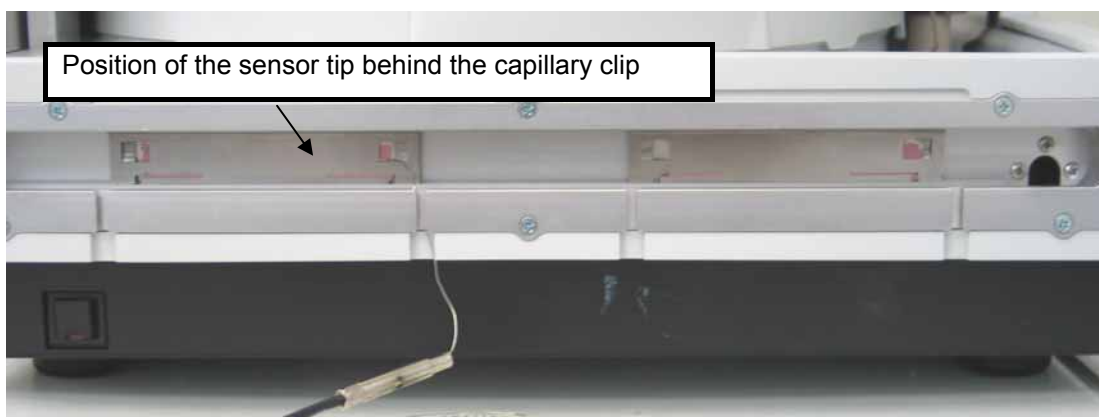

Figure 4: ACC-3000(T) – Position of the temperature sensor
- When qualifying the Dionex ACC-3000(T) column compartment, install the temperature sensor as shown in Figure 4. Be sure to use the type K temperature sensor (and not the sensor from the Column Thermostat PQ Kit). Install the temperature sensor behind the left capillary clip, from a vertical point of view in the center of the oven, and 2 cm away from the right edge of the heat-conductive pad.